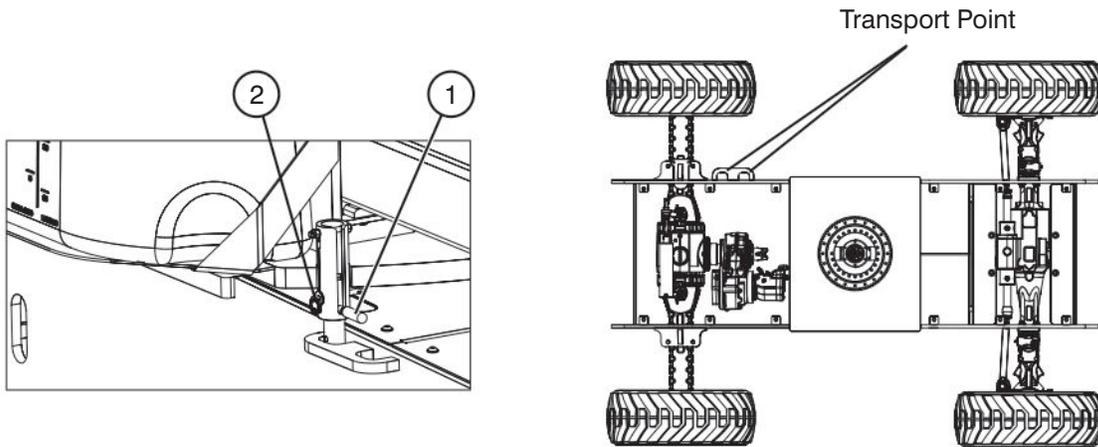
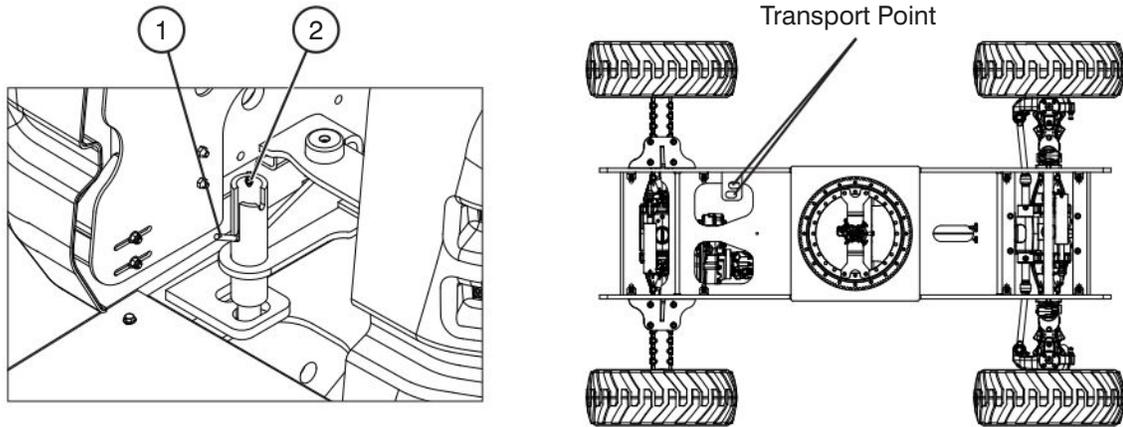

Figure 3-3a. Turret Transportation Lock & Locking Points (Models SJ46AJ & SJ51AJ)
Figure 3-3c. Turret Transportation Lock & Locking Points (Model SJ63AJ)
1. Ensure that turret is positioned so that turret transportation lock tube (item 1 - Figure 3-3a or Figure 3-3c) is aligned into one of two turret locking points in the turret rotation lock plate.
2. Pull out turret lock retaining pin (item 2 - Figure 3-3a or Figure 3-3c). Lower turret lock into locked position and reinsert turret lock retaining pin.
1. Place boom in stowed position centered between drive wheels. Lock turret using turret transportation locking pin (refer to Section 3.10-2) into the transport point (refer to Figure 3-3a or Figure 3-3c).